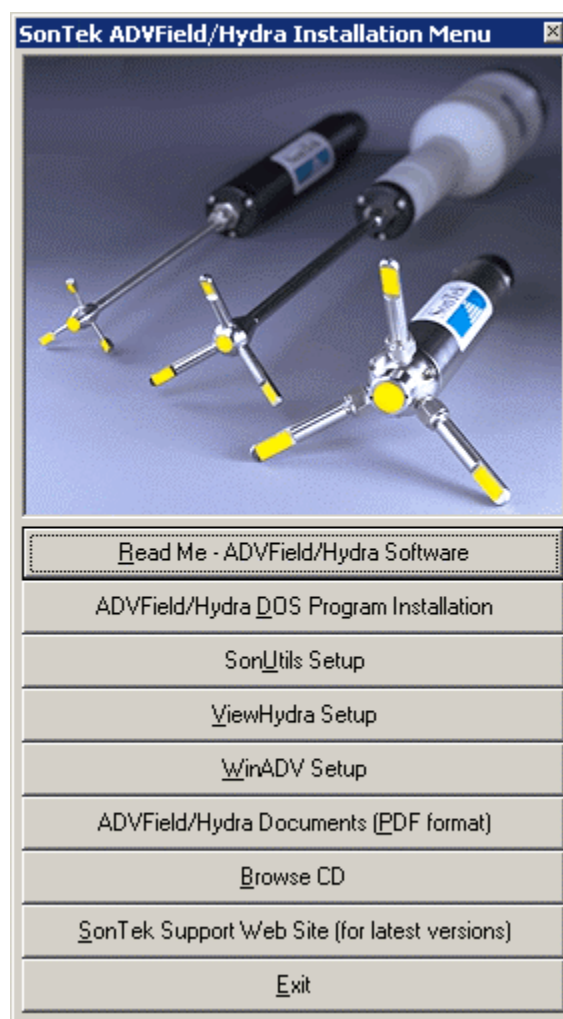

Figure 1 - ADVField/Hydra Software Installation Menu
- An installation menu (Figure 1) should automatically appear after the CD has been inserted.